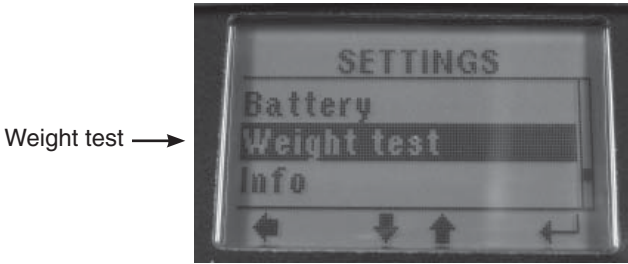

Figure 7. Weight Test
3. Use UP/DOWN buttons to scroll to “Weight test” (Figure 7) then press ENTER